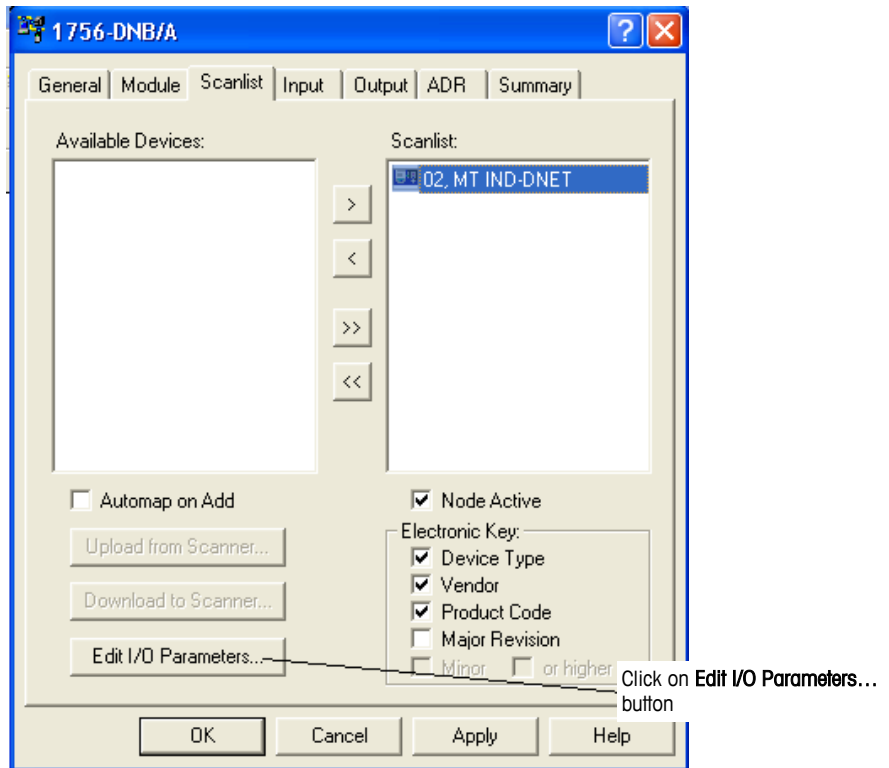

Figure 3-19: IND Terminal Added to Scanlist
8. Highlight the IND Terminal (MT IND-DNET) and left-click to add it to the Scanlist. Once the IND Terminal is added, it will appear in the right pane (Figure 3-19). Click **OK**.